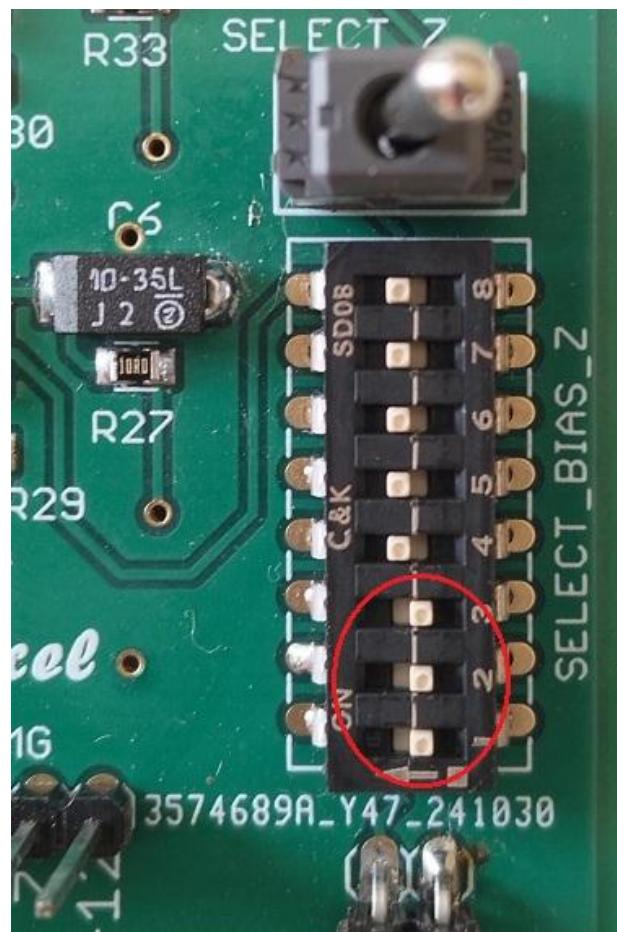

Fig. 3. Z component DIP switch view for cancelling 45450nT estimated local value.
2. Fix the DIP switch position 1,2,3 to off as shown in the Fig 3 red circle